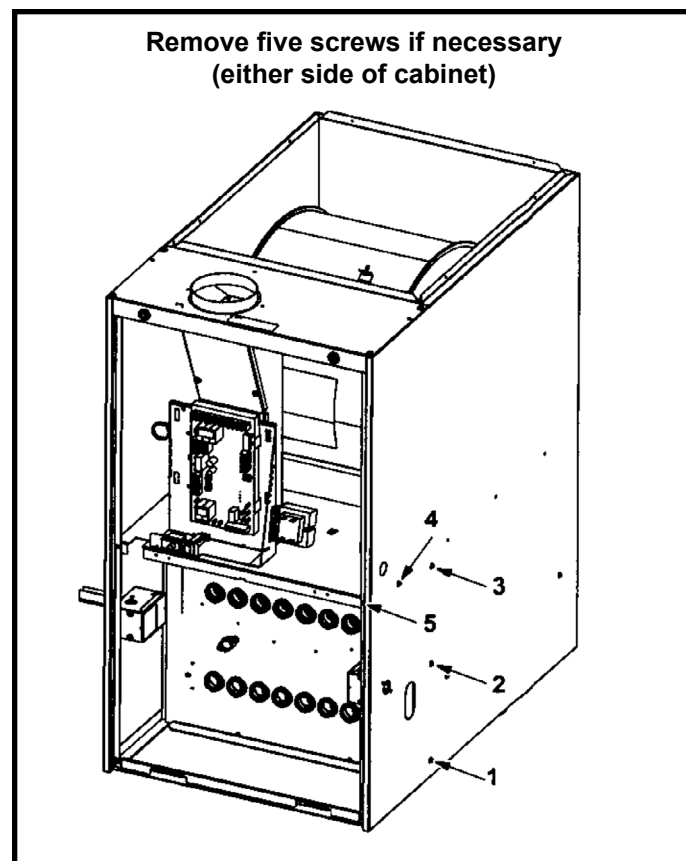

Figure 33
9. Remove heat exchanger. It may be necessary to spread cabinet side to allow more room. If so, remove five screws from the left side or right side of cabinet. See Figure 33.